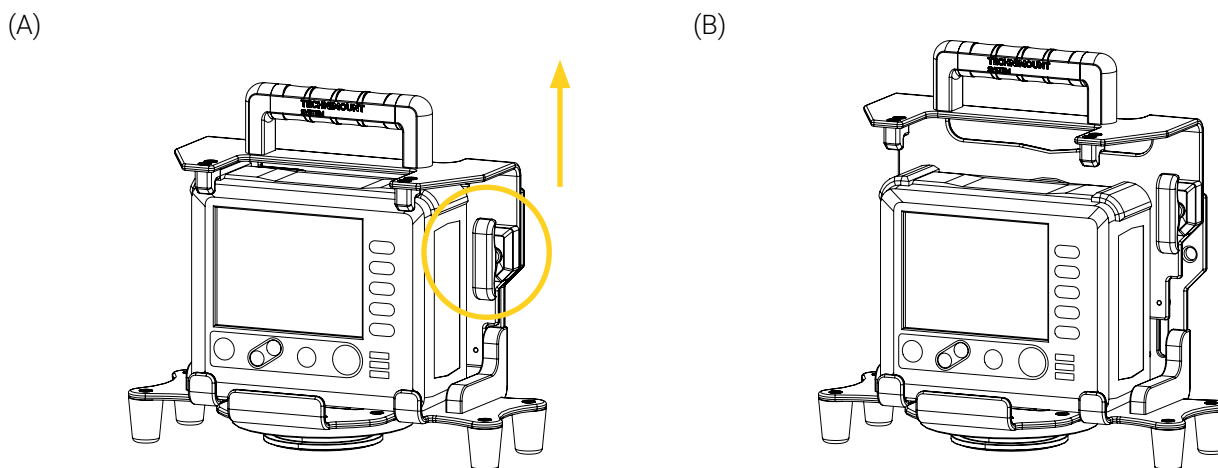

Figure 12: Unlocking and extending the BP75–FL MCD
1. Unlock and extend the BP75–FL MCD using the quick-release pin and top handle (Figure 12). Refer to the « Extend the BP75–FL MCD » section on page 18 if needed.